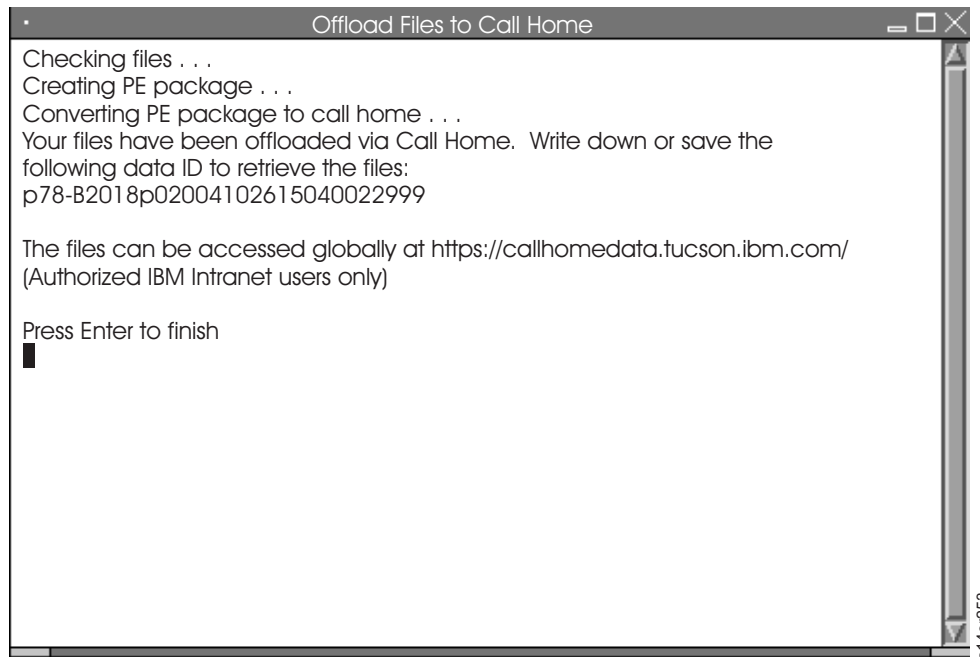

Figure 3-63. Offload Files to Call Home
1. From the main menu, select **System Console Actions > Offload User Files to Call Home**. If you are using a dial-in session, issue the command **offloadpkg**. File offload begins. The window depicted in Figure 3-63 on page 3-47 appears.
2. See Figure 3-63. A data ID is assigned to the user's files. This data ID must be entered to retrieve the files on the RMSS Call Home Database. Make note of this ID for future reference. If the ID is lost, the user's files can still be found by locating call homes from the System Console's Primary System on the Call Home Database. The Primary System is set in Call Home Setup (see "Configuring Call Home Settings Electronic Customer Care" on page 2-71). To assist in recording the ID, note that the ID always takes the form described in the following example.